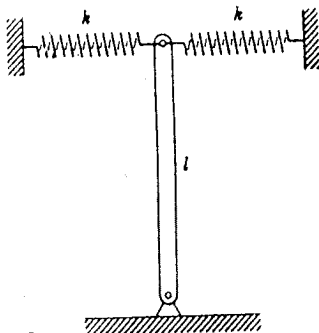

Figure Q6
- Q6. A slender uniform rod of weight W is pivoted at the bottom end and is held in equilibrium by two springs, as shown in Figure Q6.